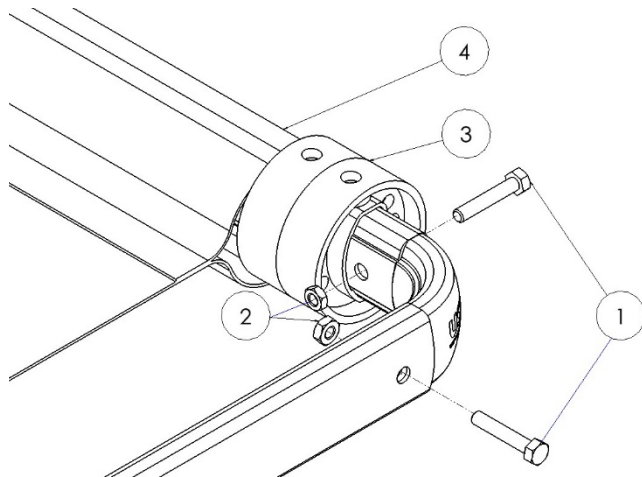

Figure 3.11
Secure the 90 degree corners to the upper arms and cross tube using 5/16" x 1-3/4" hex bolts (1) and 5/16" hex nuts (2). (Figure 3.11). **Note:** In most cases the 90 degree corners will come preinstalled in the upper arm.